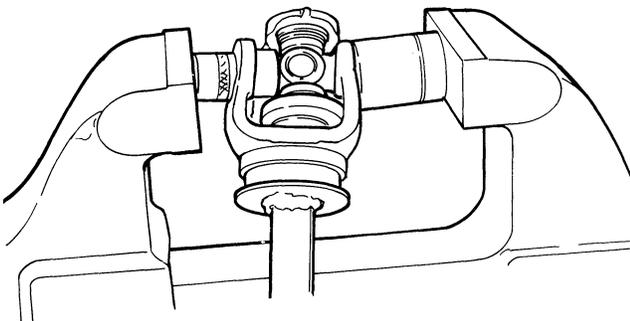

Figure 9
- Insert the yoke in the vise with the smaller socket against the cross and the larger socket supporting the yoke as shown in Figure 9.